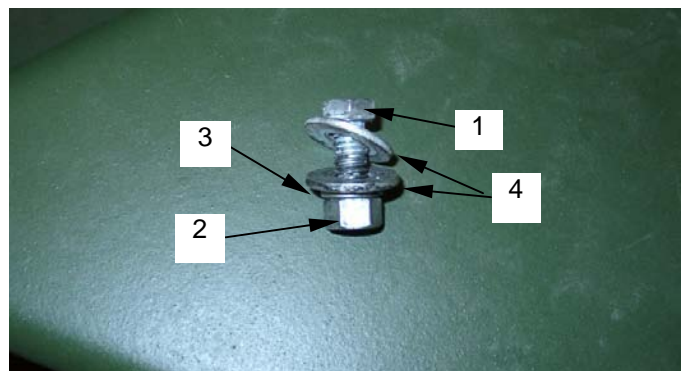

Figure 5. Equipment Tray Mounting Hardware
4. Remove nuts (**figure 5, item 2**) flat washers (**figure 5, item 4**) and lockwashers (**figure 5, item 3**).
7. Fasten equipment tray in place with bolts (figure 5, item 1), nuts (figure 5, item 2) flat washers (figure 5, item 3) and lockwashers (figure 5, item 4).